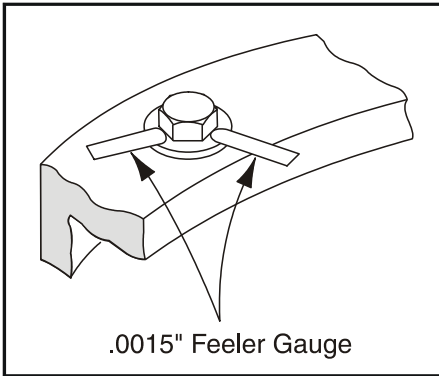

Figure 3-65. Swing Bolt Feeler Gauge Check
- b. At the position indicated on Figure 3-65. try to insert the 0.0015" feeler gauge between the bolt head and hardened washer at the arrow indicated position.